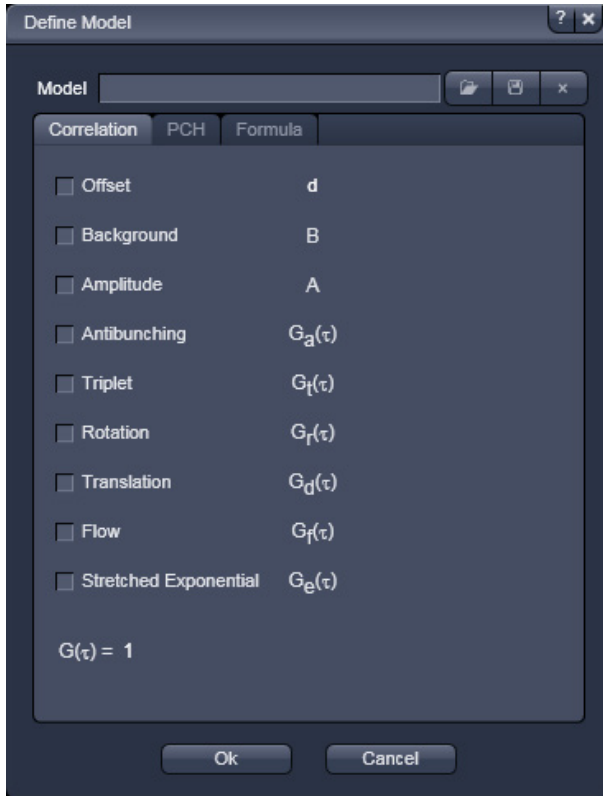

Fig. 249 Define Model panel
- Click on the **Define** button tab to open the **Define Model** panel (Fig. 249). Click the tab again to close the panel.